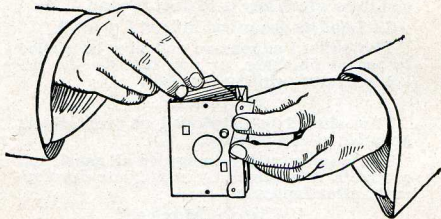

Fig. 1.
4. Lift the metal spool-retainer at the right side of roll holder, (Fig. 1) and remove exposed cartridge holding it tightly to prevent paper from loosening. Fold over half an inch at end of duplex paper (so as to make subsequent breaking of the seal easy) and then seal with sticker. Now wrap up exposed film in paper to prevent all possibility of injury by light.